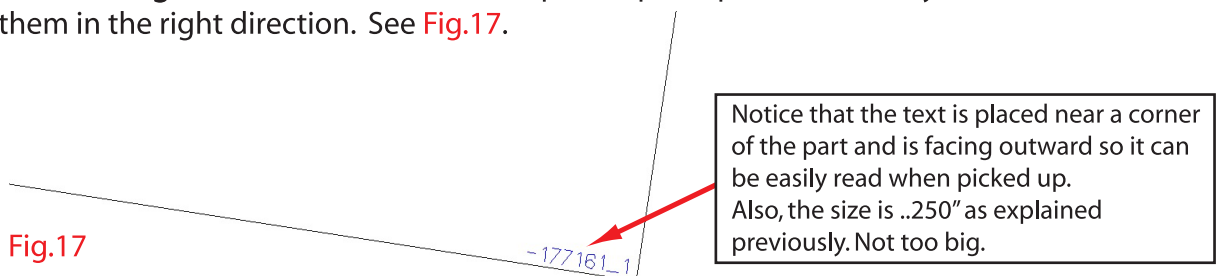

Fig.17
21) As mentioned, to be consistent with part labeling and also so those who handle the parts can find the numbers, we will ALWAYS place the text items along an edge of a part, preferably at a corner if possible, and **facing out** so that when someone picks a part up to look at, they can read the numbers facing them in the right direction. See Fig.17.